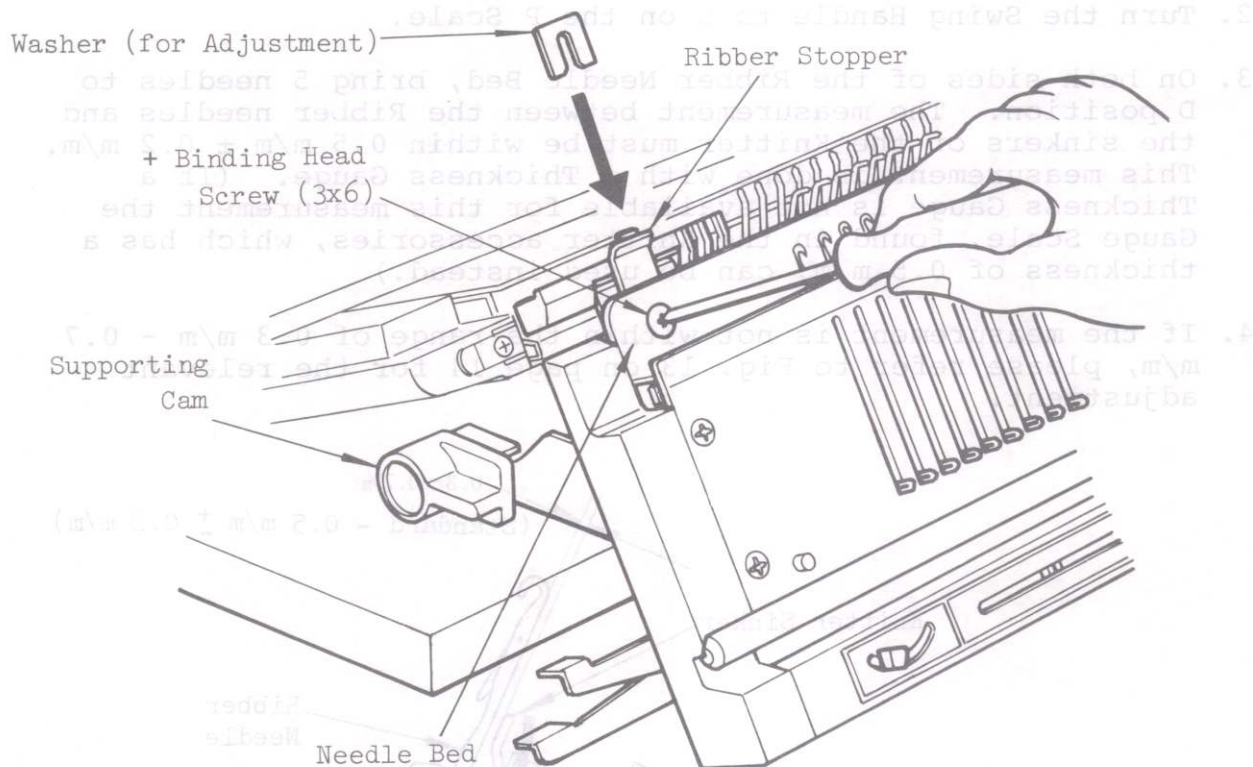

Fig. 13
4. If the measurement is not within the range of $0.3 \text{ m/m} - 0.7 \text{ m/m}$, please refer to Fig. 13 on page 14 for the relevant adjustment.